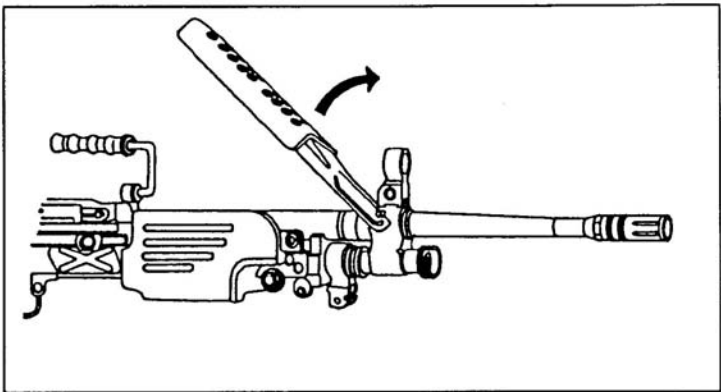

Figure 071-312-4025-6. Removal of the heat shield
- d. Remove the barrel (figure 071-312-4025-7).
- (1) Ensure that the folding handle on the new style barrel is in the carrying (up) position.
- (2) Depress the barrel-locking lever with your left hand. Grasp and lift the carrying handle with your right hand. Push the barrel forward.